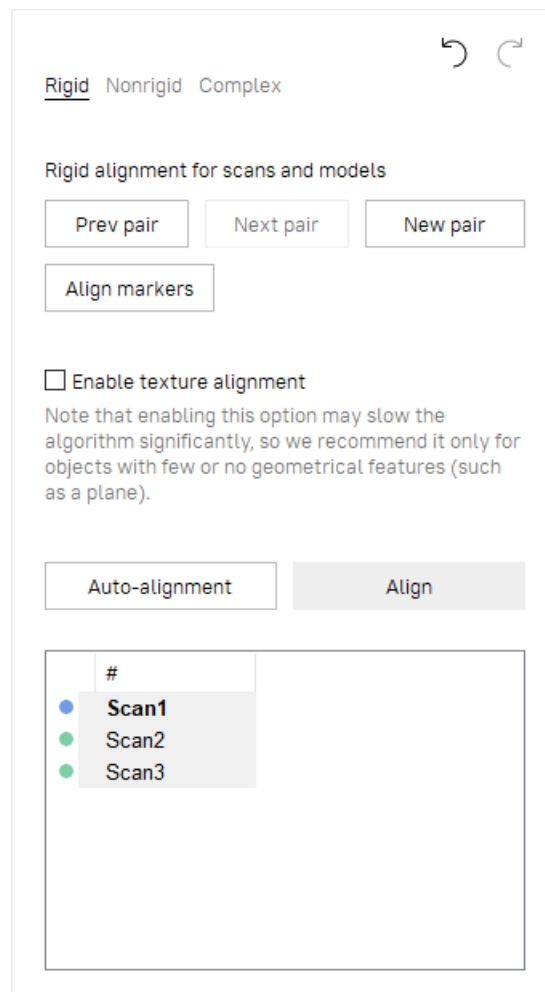

Figure 80: Align panel: Rigid tab.
1. Make sure the *Rigid* tab is selected in the *Align* panel (see Figure 80). The tool will automatically select all scans. Clear unnecessary selections by using the **Ctrl** key (see *Alignment*).
1. Make sure the *Rigid* tab is selected (see Figure 80).